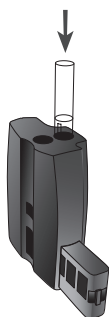

fig.2
2. Fill a test tube with sample water. Follow the test procedure. Remove the cap. Insert the tube in the front hole on the top of the Low Range Comparator (fig.2).